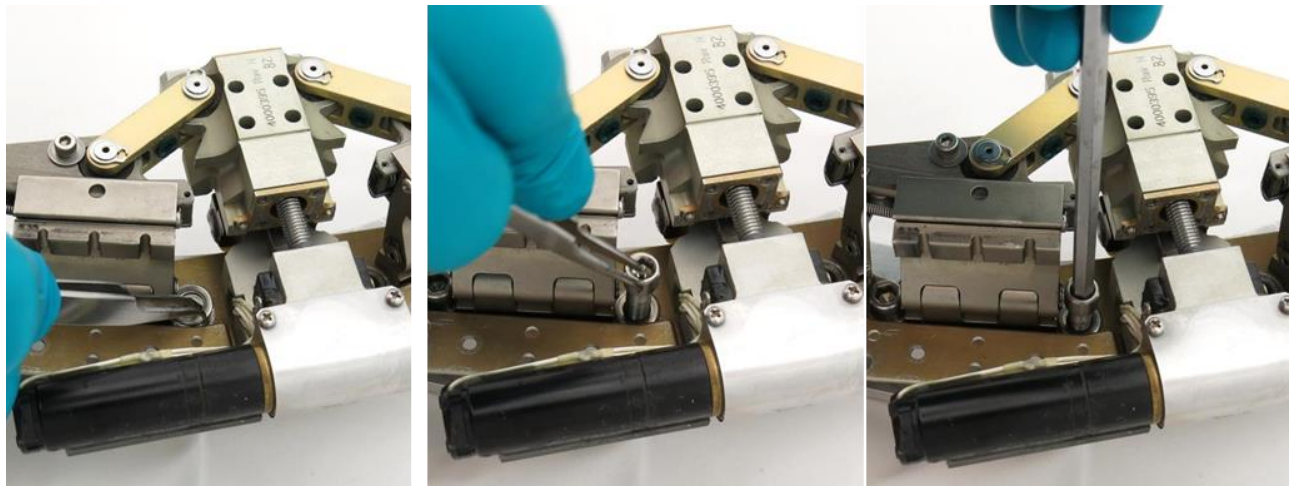

Figure 7: Installing fasteners immediately adjacent the MBA
2. Do not touch the ball screw. Be especially careful when installing fasteners immediately next to the Motor Bracket Assembly. See Figure 7.